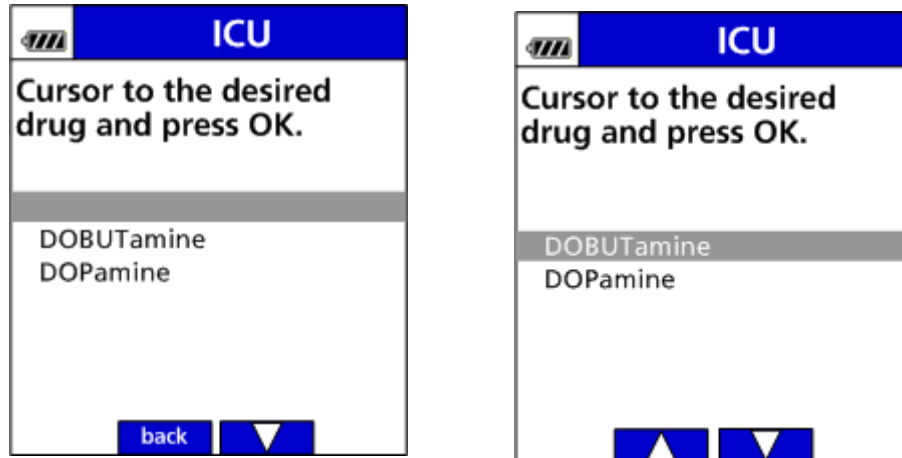

Figure 22. Select Drug Screen.
- Use the arrow keys to cursor to the desired drug and press OK. (See Figure 22.)